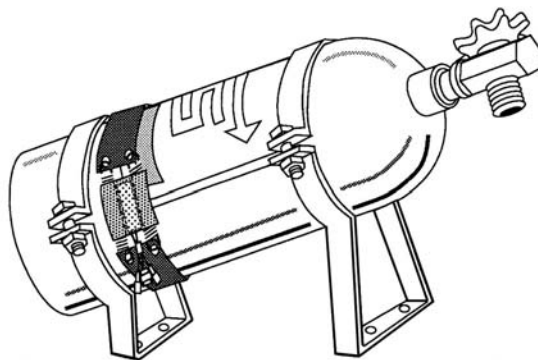

Figure 1
1. Attach the thermostat (1) to the thermostat pocket (2), using the Velcro™ provided.
2. Insert the attachment springs (3) inside the thermostat pocket.
3. Install the bottle heater element (4) on the nitrous bottle using the thermostat / thermostat pocket / attachment spring assembly. See Figure 1.